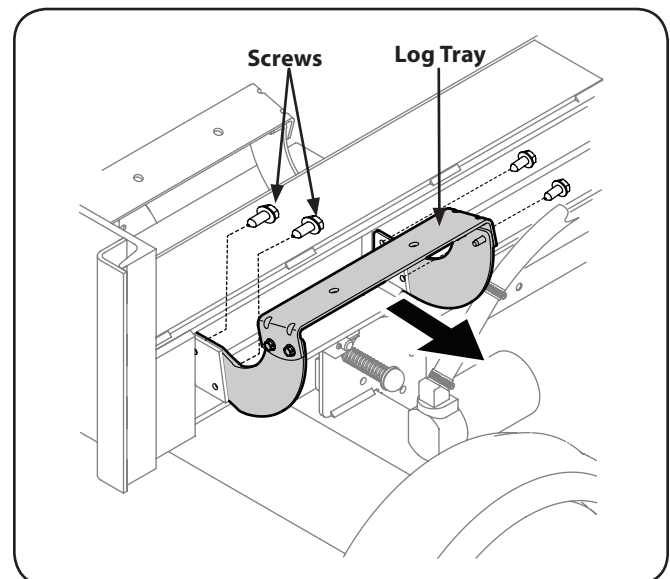

Figure 3-10
3. Place a log tray assembly against the lower outside surface of the beam flange and secure using the four self-tapping screws previously removed. See Fig. 3-10.